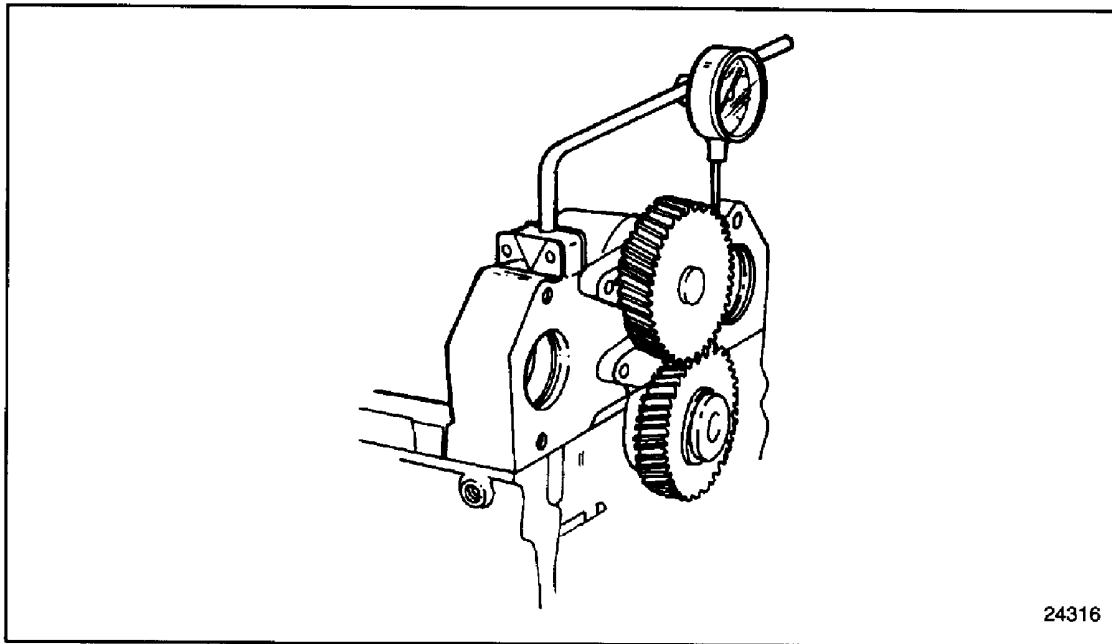

Figure 1-275 Crankshaft Timing Gear-to-Oil Drive Gear Lash Measurement
- [a] Fasten a dial indicator and magnetic base to the cylinder block so that the stem of the dial indicator rests on a tooth of the balance shaft idler gear. See Figure 1-275.